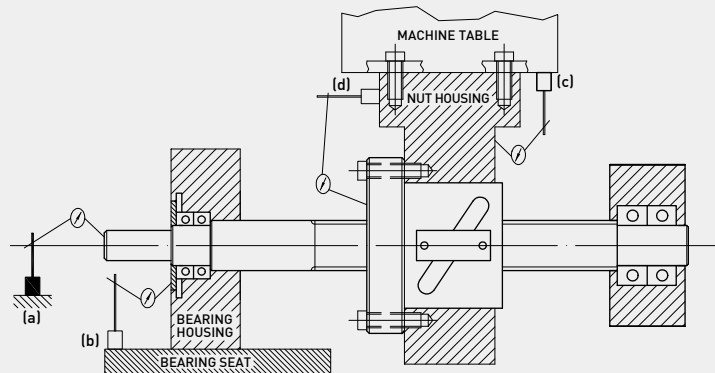

Fig. A-4 Locating the cause of an Abnormal Backlash
The ball-nut-mounted housing or the bearing-mounted housing may deflect under components' weight or machining load if it is not rigid enough. The test illustrated in Fig A-4 (d) can be used to check the rigidity of the ball-nut-mounted housing. Similar tests can be used to check the rigidity of the bearing-mounted housing.
1. Glue a gauge ball in the center hole at one end of the screw spindle. Use the flat plate of a dial indicator to check the axial movement of this gauge ball in axial direction while rotating the screw spindle (Fig A-4(a)). The movement should not exceed 0.003mm (0.00012 in), if the bearing hub, the ball nut, and the ball nut housing are all installed properly.
2. Use a dial indicator to check the relative movement between the bearing housing and the bearing seat while rotating the ballscrew (Fig A-4(b)). Any dial indicator reading other than zero indicates that either the bearing hub is not rigid enough or it is not installed properly.
3. Check the relative movement between the machine table and the ball nut housing (Fig A-4(c)).
4. Check the relative movement between the ball nut housing and the ball nut flange (Fig A-4(d)).